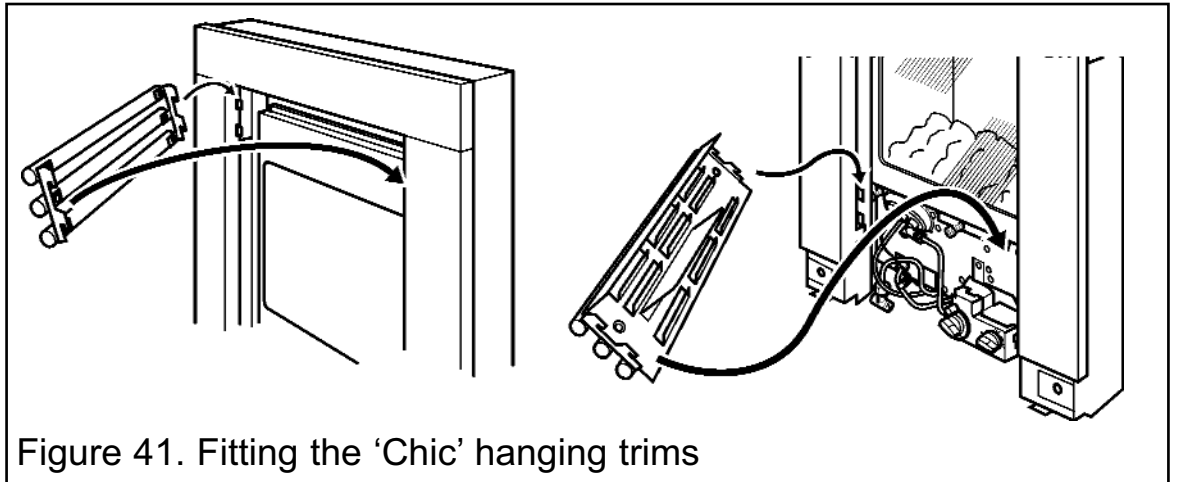

Figure 41. Fitting the 'Chic' hanging trims
- Supplied in the fascia pack are two tubular trim sets. Hang these to the tabs on the fascia (See figure 41).